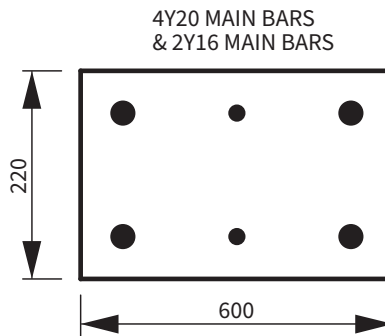

Figure 3
- 3.1 Figure 3 shows a rectangular reinforced concrete column. The column is reinforced with 4Y20 and 2Y16 main bars. The characteristic strength of the concrete is limited to 30 MPa.